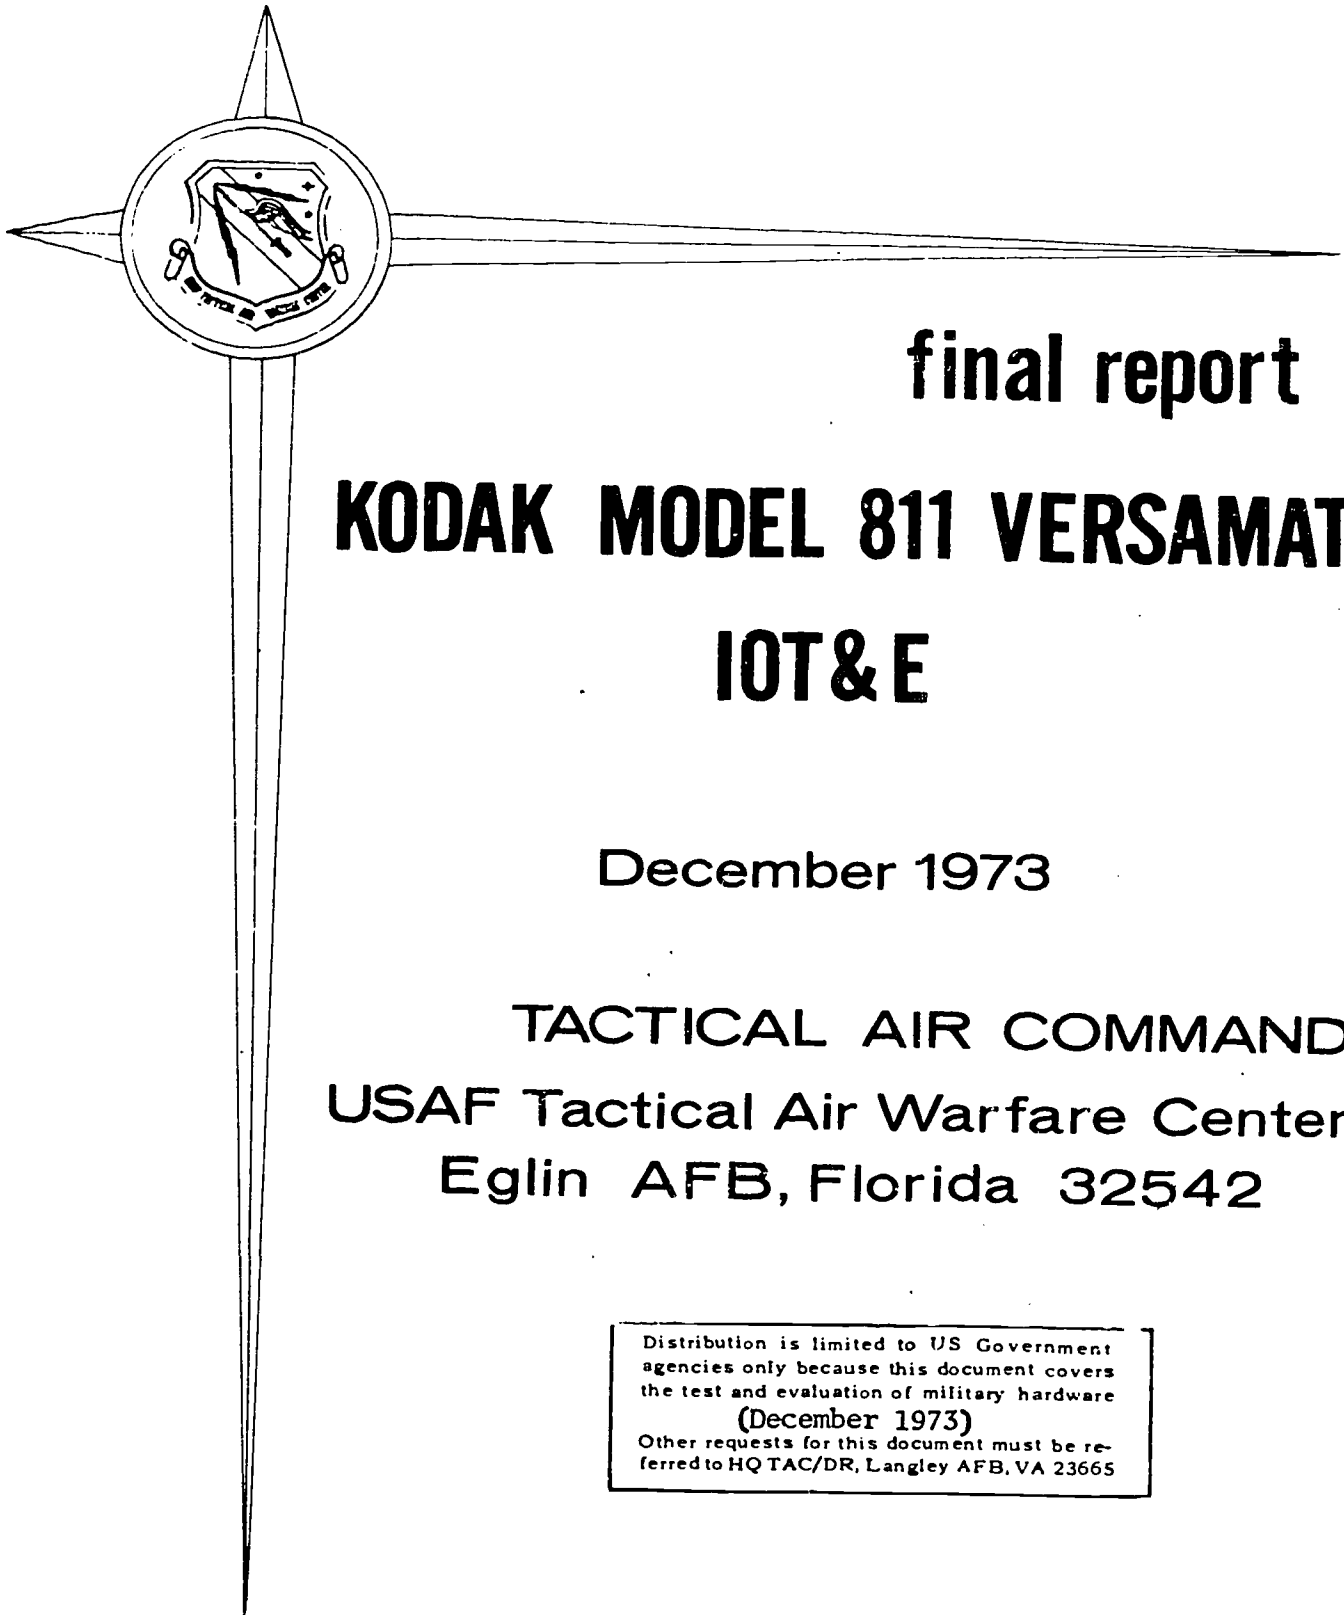

Figure 3-17. Cover and outside title page.
- a. Cover and outside title (fig. 3-17).